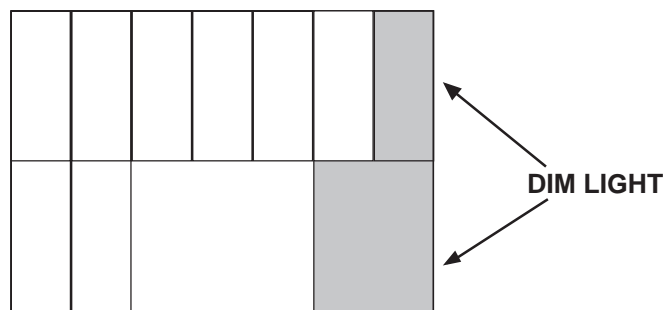

Fig. 6
3. Go to Adjustment Mode (1) by remote control.
4. Select SUB BRI. from Adjustment Mode (1) menu screen.
5. Adjust SUB BRI. level (by using + or - button on remote control) to obtain a dim pattern. (Refer to Fig. 6)